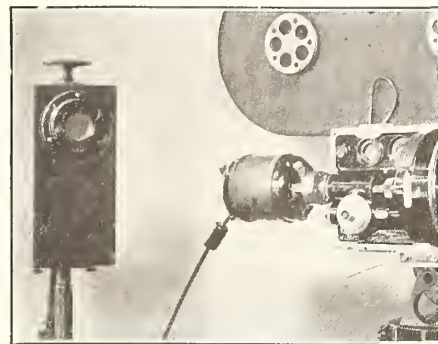

Fig. 1. Motor and recorder mounting.
Fig. 1 shows the transmitter of the new system of color television. Fig. 2 is the receiver and Fig. 3 is a new "electronic" commutator, the general principle of which is used in a magnetic light projector. In Fig. 1 (1) is an arc light which throws rays of light through the perforations or lenses of the scanning disc (2); upon the subject to be televised (6). The light reflected reaches the photoelectric cells (5) which are mounted on the window (4). This window contains several groups of different cells. One group is mostly sensitive to red light and has color filter screens passing only that color. Another group is more sensitive to blue and has its own color filter. Another group is sensitive to green, and so on. For the purpose of illustration and for the sake of simplicity only the three fundamental or primary colors, blue, red, green are to be used in the present scheme. Each group of photoelectric cells is connected to its contact plate in the "electronic" commutator.
order to assure constant speed of the film past the light beam, a double "filter" system is used. As the film is being exposed it passes around a revolving drum mounted on a shaft upon which is attached an accurately balanced flywheel. The sprocket pulling the film around this drum is isolated from the driving mechanism by a filter of advanced design. This sprocket is mounted on a shaft of generous diameter which precludes the possibility of damage, should the film pack up or wrap around the sprocket. A footage counter is located on top of the recording head. Motor and recorder are mounted upon a cast aluminum base as shown in Fig. 1.